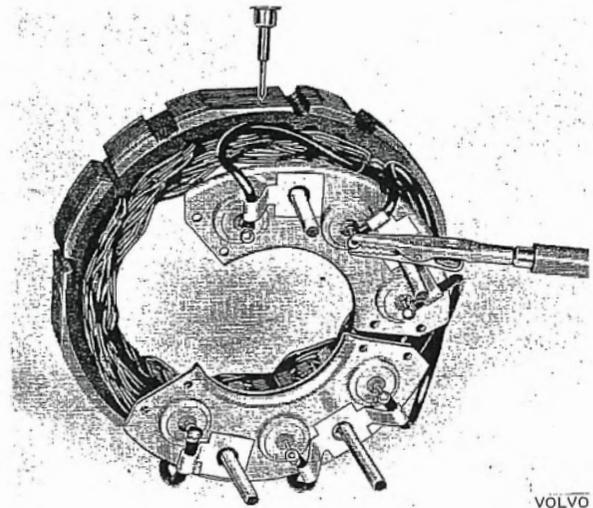

Fig. 3-9. Checking stator
Check the stator for any short-circuiting. If one or several of the coils are burnt, there must be a short-circuit in the stator. Connect a test lamp (12 V, 2-5 W) between the stator plates and a terminal on the stator, see Fig. 3-9.
7. Connect a test lamp between B+ and the alternator frame. Switch the terminals. The lamp should light only in one direction, see Fig. 3-9. After any repairs, the alternator should be test-run in a test bench.